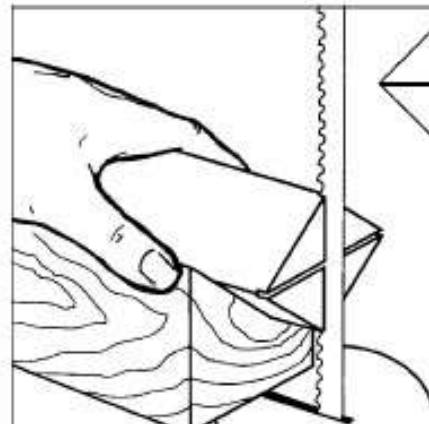

FIG. 10
1. With a ruler locate and mark the center on each end by going corner to corner, see Figure 10. Accuracy is not critical on full rounds but extremely important on stock where square sections are to remain. Put a dimple in each end of the stock with an awl, or nail.
2. Extremely hard woods may require kerfs cut into the spur drive end of stock, see Figure 10. You may need to drive the spur center into the stock with a wood mallet. **Note:** Never drive stock onto spur while it is mounted in the lathe spindle.